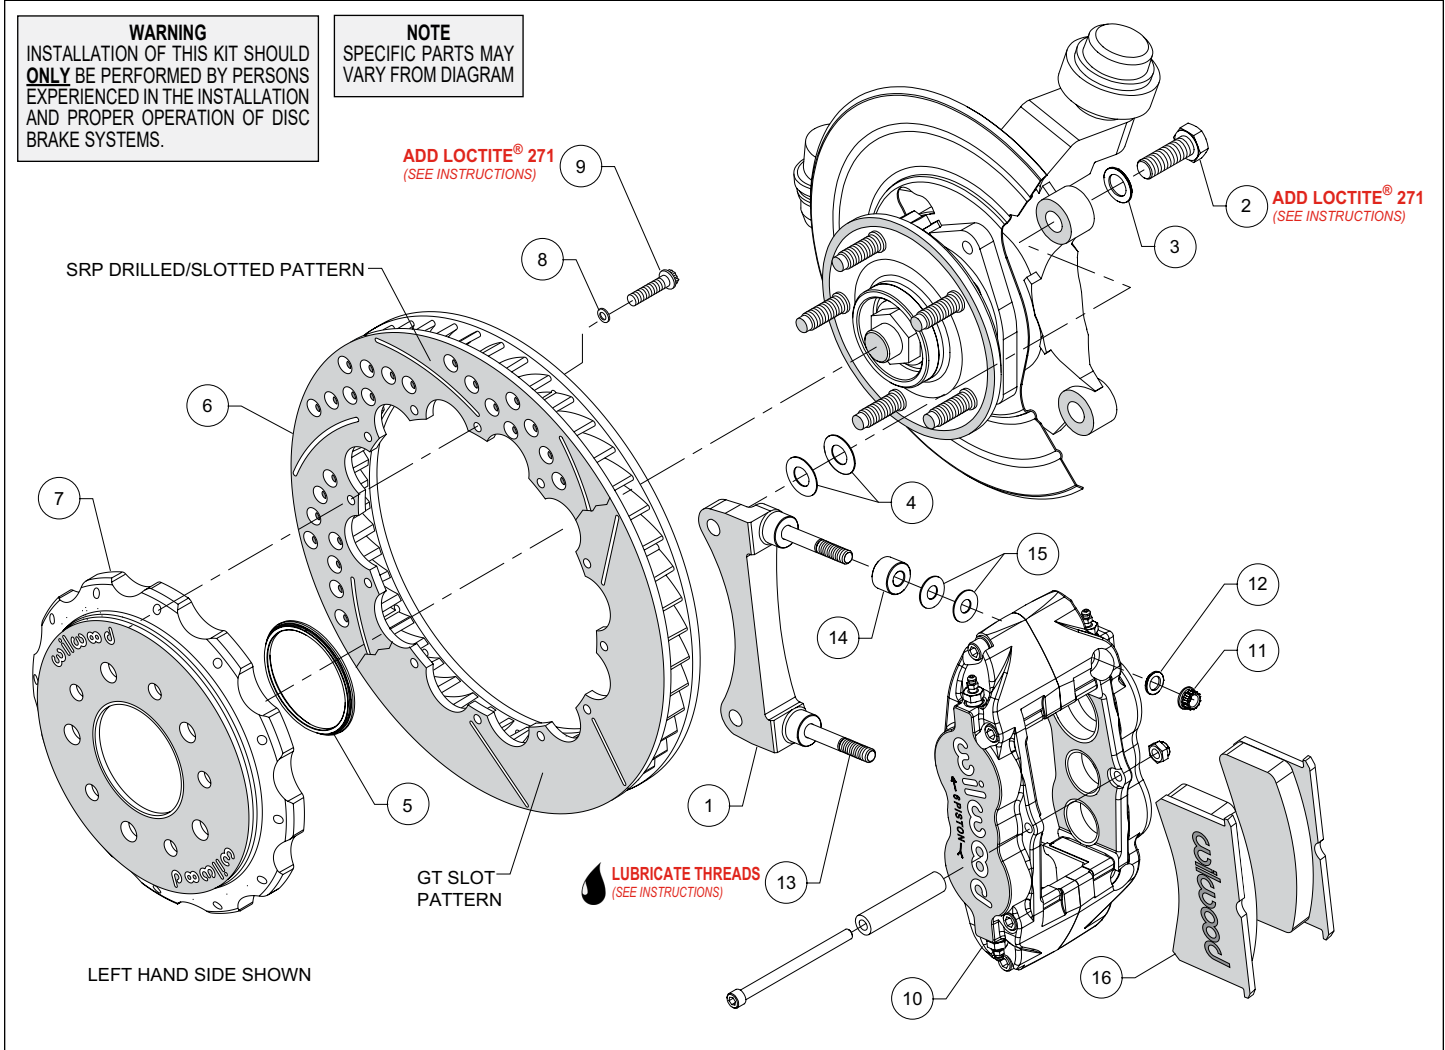
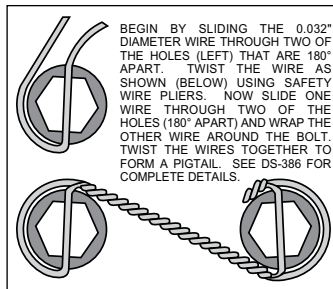

Figure 1. Typical Installation Configuration
Figure 3. Safety Wire Diagram
**NOTE:** Numbers in parenthesis refer to the parts list and Figure 1 on the preceding pages.
- The caliper mount bracket (1) should initially be installed with clean, dry threads on the mounting bolts. Orient the bracket as shown in Figure 1 and Photo 1 and install using mount bolts (2) and washers (3). Initially place two .029" thick shims (4) on each bolt between the bracket and upright, Figure 1. Temporarily tighten the mounting bolts. **NOTE:** The bracket must fit squarely against the mount bosses on the upright. Inspect for interference from casting irregularities, machining ridges, burrs, etc. Later, after the caliper alignment has been checked, the mount bolts will be secured using red *Loctite*® 271.
- Orient the rotor (6) and the hat (7) as shown in Figure 1 and Photo 2. Attach rotor to hat using bolts (9) and washers (8). Apply red *Loctite*® 271 to the bolt threads and torque to 155 in-lb using a criss-cross pattern. For an added measure of security, the bolts may be safety wired using standard 0.032 inch diameter stainless steel safety wire as shown in Figure 3. Please refer to Wilwood's data sheet DS-386 (available at [www.wilwood.com/Pdf/DataSheets/ds386.pdf](http://www.wilwood.com/Pdf/DataSheets/ds386.pdf)) for complete safety wire installation instructions.
- Slide the rotor registration adapter (5) onto the axle register on the axle hub with the smaller O.D. facing outward, Photo 3.
- **NOTE:** This kit contains distinct right and left hand calipers that must be mounted in a specific direction, as described below. Lubricate the caliper mounting studs (13) with lightweight oil. Initially place two .035" thick shims (15) and one spacer (14) on each stud as shown in Figure 1 and Photo 7. Mount the caliper (10) onto the bracket (1) using lock nuts (11) and washers (12), Figure 1. Ensure that the caliper is mounted so the largest pistons are at the rotor exit end of the caliper, in relation to the direction of rotor rotation. Temporarily tighten the lock nuts and view the rotor through the top opening of the caliper. The rotor should be centered in the caliper, Photo 8. If not, adjust by adding or subtracting shims (4) between the bracket and the upright. Always use the same amount of shims on each of the two mounting bolts. Once the caliper alignment is correct, remove the bracket mounting bolts one at a time, apply red *Loctite*® 271 to the threads, and torque to 75 ft-lb.